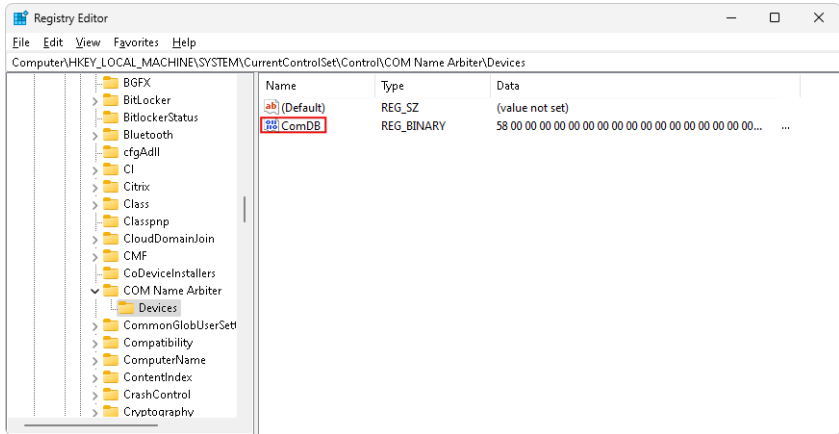

Fig. 14: Registry Editor
- In the *Start* menu, type **regedit** and hit enter. You will be prompted with a message: "Do you want to allow the following program to make changes to this computer?" After clicking Yes, window as seen in **Fig. 14** on pg. 14. will be opened.